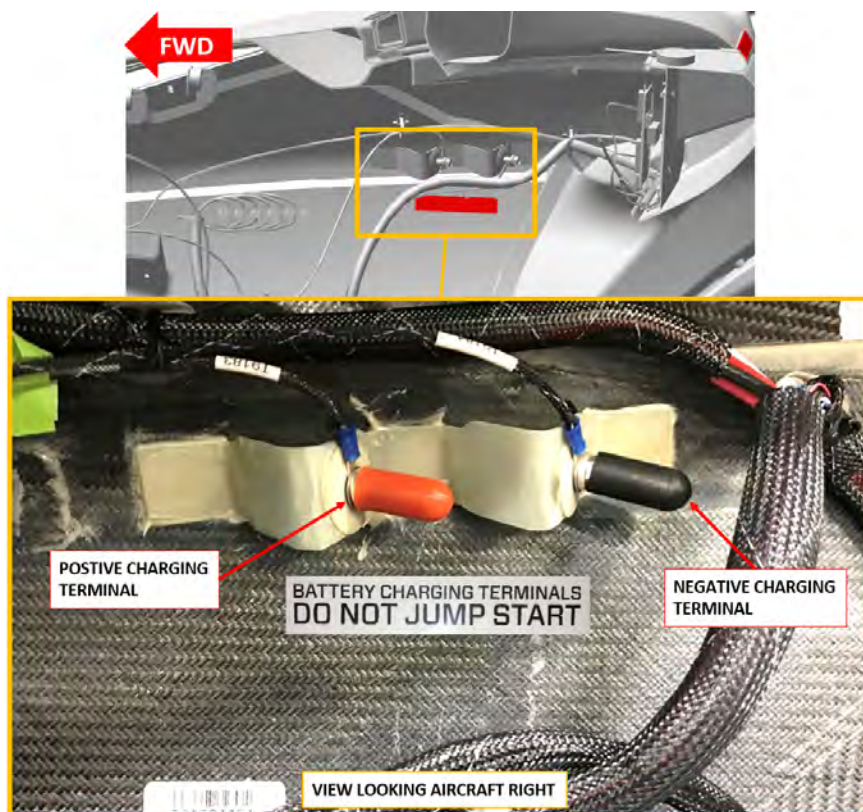

FIGURE 6-3
2. Remove red and black terminal caps from positive and negative charging terminals, respectively. (See Figure 6-3.)
13. Replace the red and black terminal caps. (See Figure 6-3.)